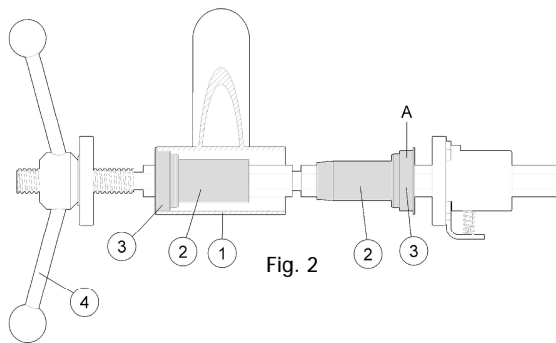

Fig. 2
4. Slide the Press tool ④ through the Bottom bracket Shell ①.
5. Using the Press tool ④ press the bearing cup ③ with half sleeve ② into the BB shell. Tighten until the thrust face of the Bearing Cup ③ is flush with the outer face of the Bottom Bracket shell ①.
6. Repeat steps 4 through 6 to install remaining bearing cup with sleeve. Be certain that the center sleeve halves are aligned properly to avoid damage. One side of the center sleeve should easily fit over the other (Fig. 2).